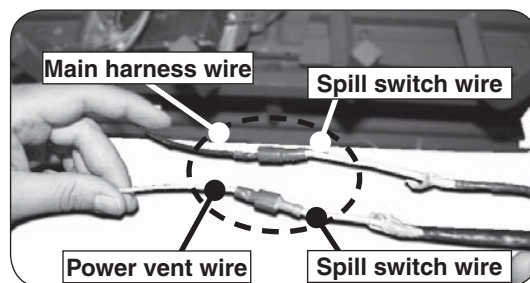
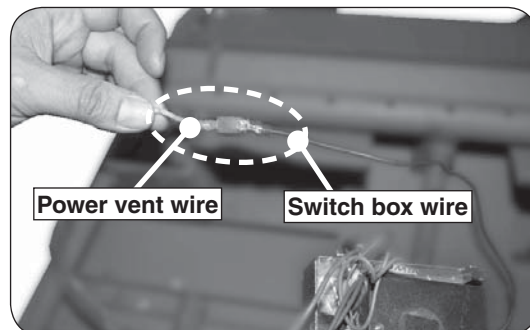

Fig. 12-1 Connect spill switch and power vent wires
Fig. 12-2 Connect power vent to switch box wire
5. **Units with Power vent:** Locate the two spill switch and two power vent wires coming out of the hole in the lower right side of the fireplace. Connect them to the free wires now coming from the main harness and switch box (male to female). See Fig 12-1, Fig 12-2, and the WIRING DIAGRAM TO SPILL SWITCH AND POWER VENT in the SPECIFICATIONS section.